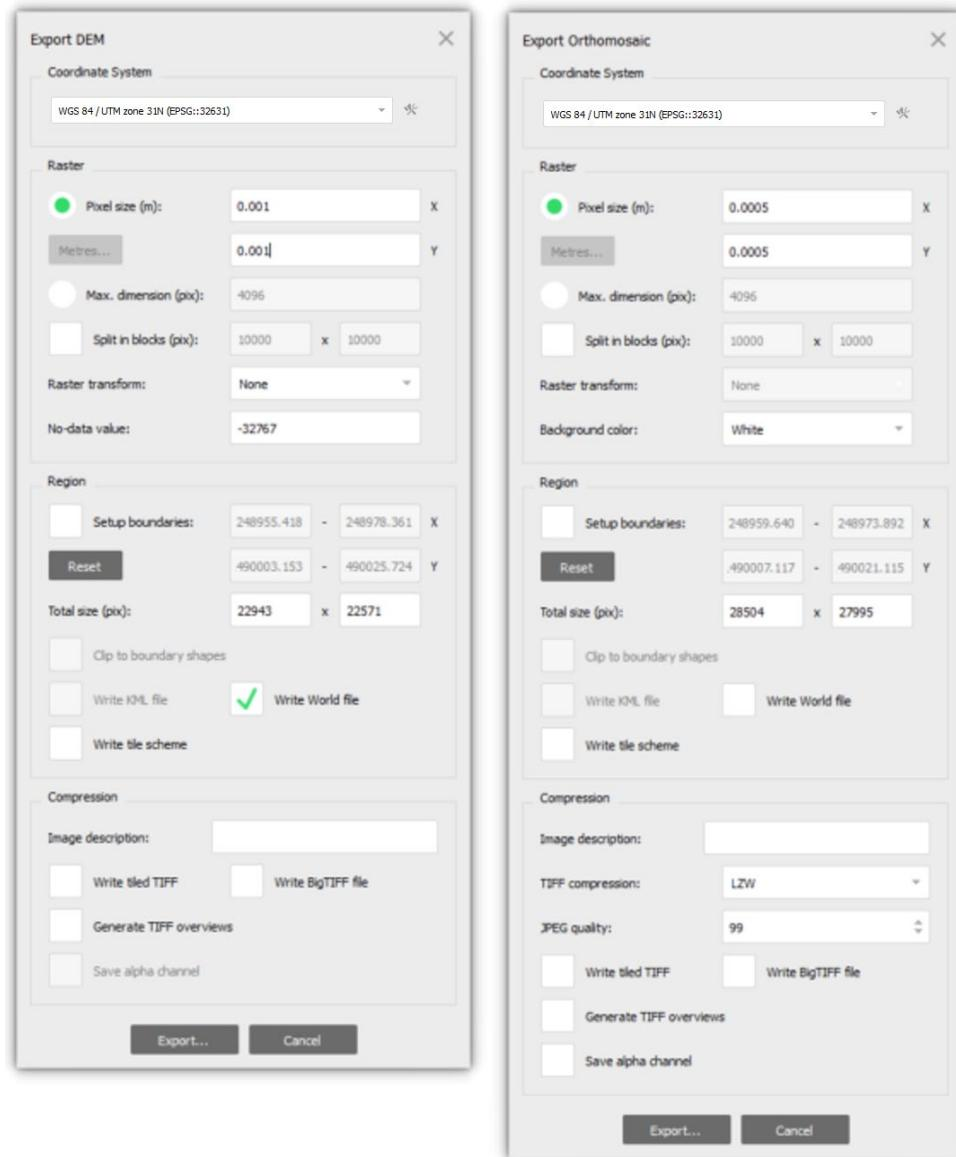

Figure 4.25 Export DEM and orthomosaic parameters.
1. File → Export DEM → Export TIFF/BIL/XYZ... (Figure 4.25)
1. File → Export Orthomosaic → Export TIFF/BIL/XYZ... (Figure 4.25)